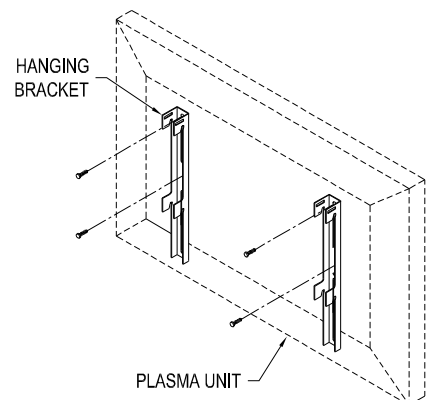

Figure 4
9. Mount the Hanging Brackets to the back of the Plasma Unit utilizing all the fastener points recommended by the plasma manufacturer. See Figure 4.